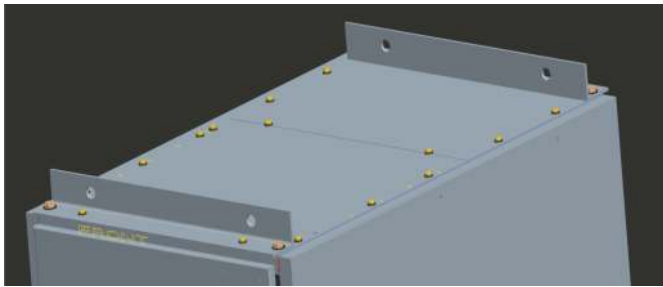

Figure 23 - Top plate
1. Remove the top plate Figure 23.